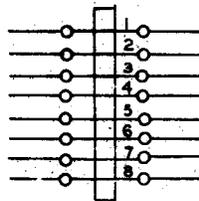

Fig. 8—332A Plug
2.07 332A: The 332A (Fig. 8) consists of a double-male-plug having each pin strapped to the corresponding pin at the opposite end of the plug. The 332A plug is for insertion in the KS-7862, type 39-1-E vacuum tube socket. The 332A plug is also used with the 360 tool in connection with the 35-type test set for testing 239-type relays in Private Branch Exchange (PBX) dial long line circuits.